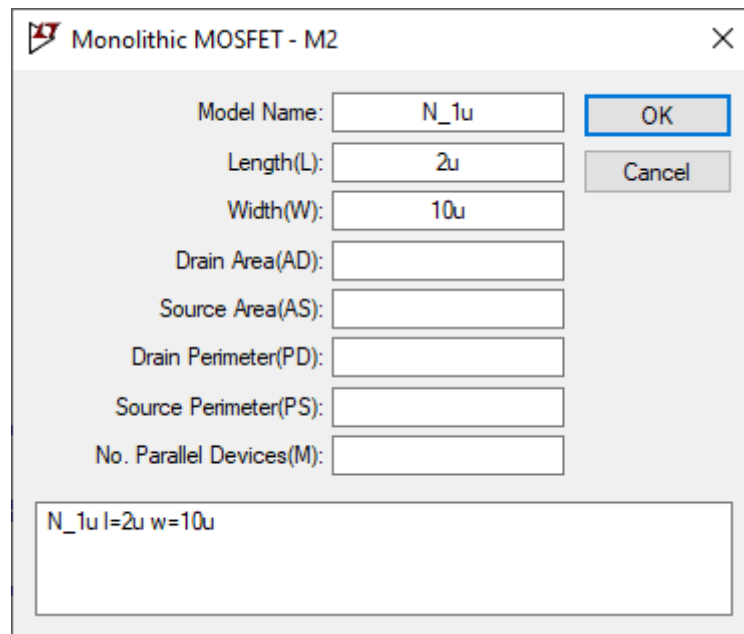

Fig. 3.
3. Right click on each of the transistors, set their parameters as illustrated in Fig. 3.